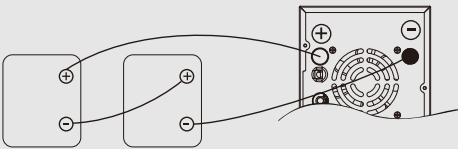

Fig. 2
2) Multiple Batteries in Series Connection (Refer to Fig. 2):